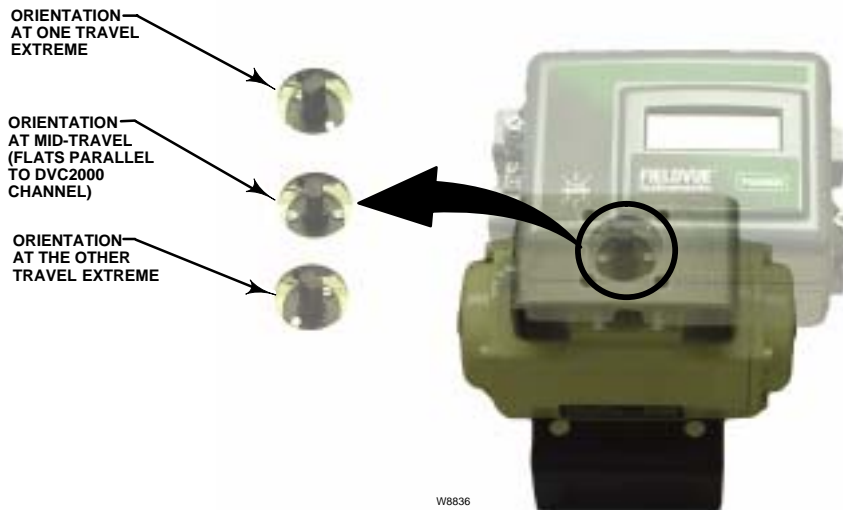

Figure 2-12. Magnetic Assembly Orientation on Quarter-Turn Actuators
1. Attach the magnet assembly to the actuator shaft. At mid-travel, the flats on the magnet assembly must be parallel to the channel on the back of the DVC2000 housing, as shown in figure 2-12.